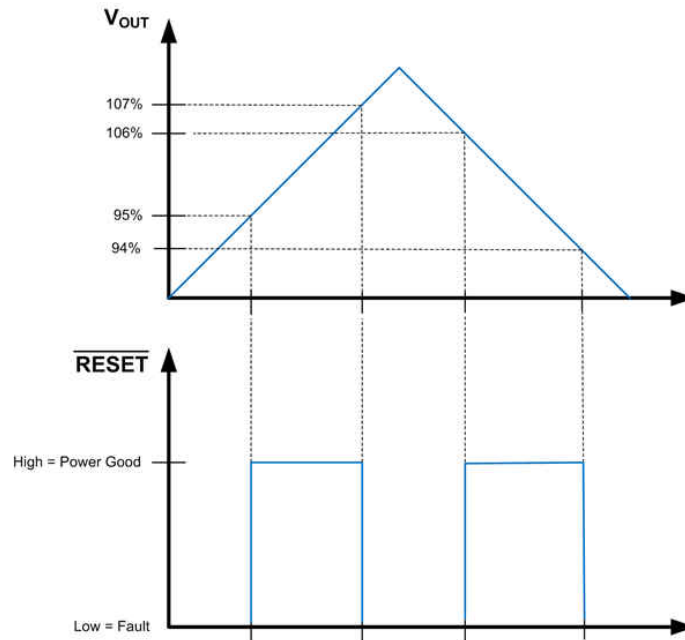
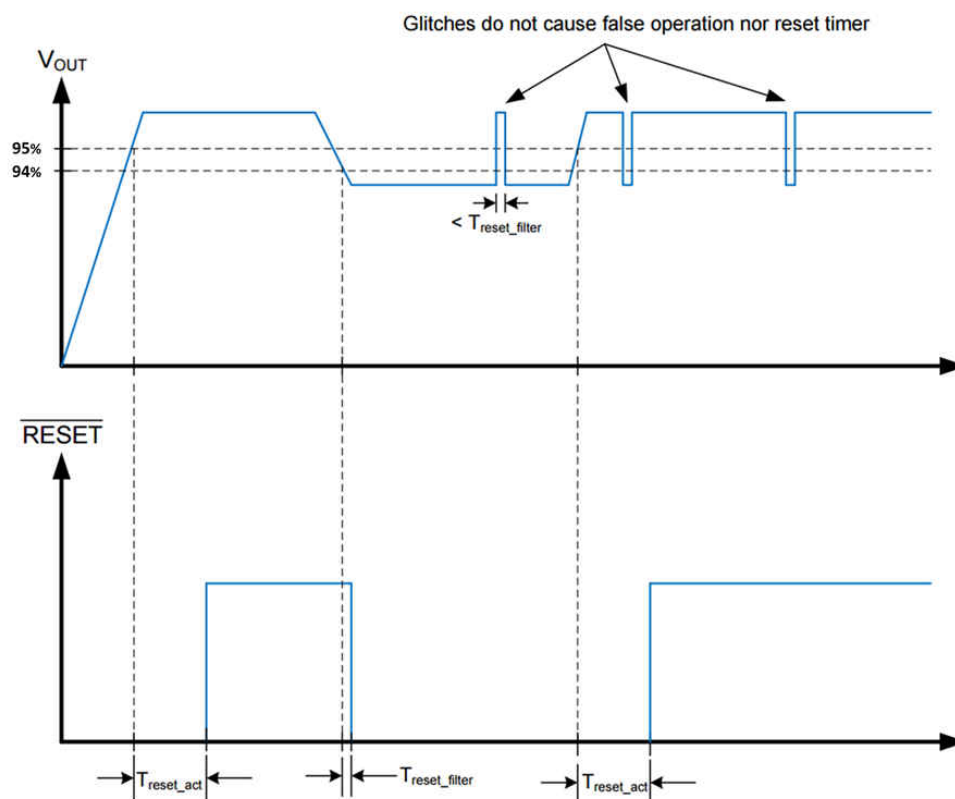

图 8-2. Static RESET Operation
图 8-3. RESET Timing Behavior
The RESET function, built into the LM53625/35-Q1, has special features not found in the ordinary Power-Good function. A glitch filter prevents false flag operation for short excursions in the output voltage, such as during line and load transients. Furthermore, there is a delay between the point at which the output voltage is within specified limits and the flag asserts Power Good. Because the RESET comparator and the regulation loop share the same reference, the thresholds track with the output voltage. This allows the LM53625/35-Q1 to be specified with a 96.5% maximum threshold, while at the same time specifying a 94 % worst case threshold with respect to the actual output voltage for that device. This allows tighter tolerance than is possible with an external supervisor device. The net result is a more accurate Power-Good function while expanding the system allowance for transients, and so forth. RESET operation can best be understood by reference to Figure 8-2 and Figure 8-3. The values for the various filter and delay times can be found in Section 7.7. Output voltage excursions lasting less than $T_{\text{RESET-filter}}$ do not trip RESET. Once the output voltage is within the prescribed limits, a delay of $T_{\text{RESET-act}}$ is imposed before RESET goes high.
- A delay has been added for release of reset. See 图 8-2 and 图 8-3 for more detail.